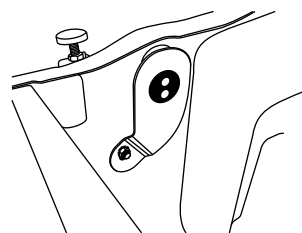

Figure 1a
1. Install the hardline support bracket onto the engine side of the core support as shown in Figure 1a, below. **NOTE: 1969 models will use the OEM bolt to secure the hardline support bracket to the core support. 1970 models will use a 1/4-20 x 1/2" bolt, flat washer and nut with star washer.**
2. Insert the grommet into the hardline support bracket as shown in Figure 1a, below.
1. Knock out the plate on the core support, then install the hardline support bracket on the engine side of the core support as shown in Figure 1a, below. **NOTE: 1969 models will use the OEM bolt to secure the hardline support bracket to the core support. 1970 models will use a 1/4-20 x 1/2" bolt, flat washer and nut with star washer.**